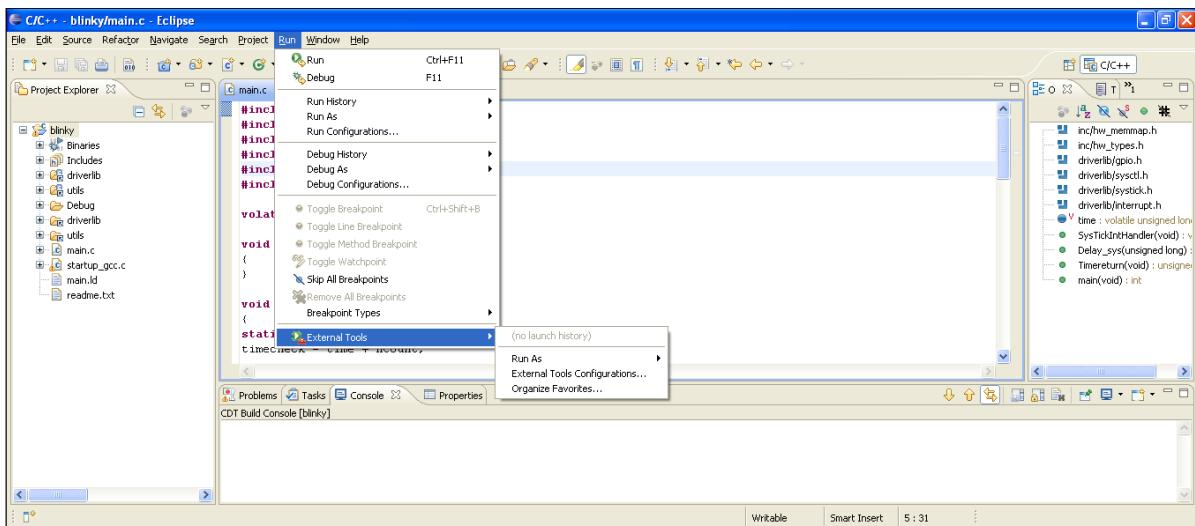

Figure 11.22 External Tool
- Go to Run -> External Tools -> External Tools Configuration as shown in Figure 11.22.